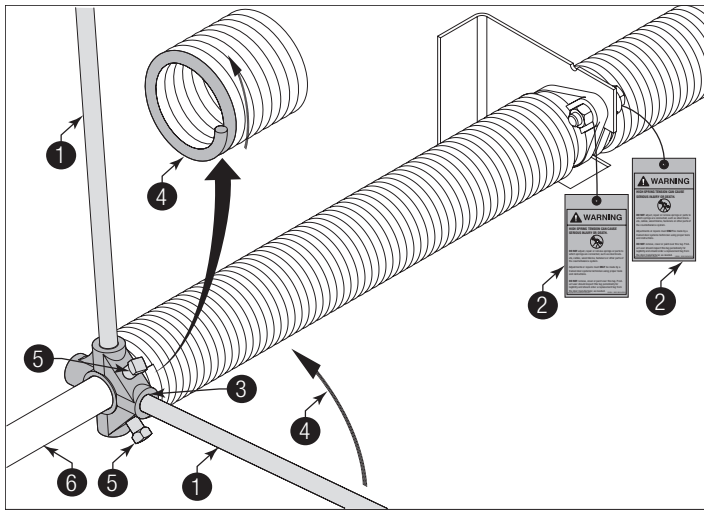

Figure 24
**PRIOR TO WINDING THE SPRING, ENSURE YOU'RE WINDING IN THE PROPER DIRECTION AS SHOWN IN FIGURE 24. OTHERWISE THE SPRING FITTING MAY RELEASE FROM SPRING AND RESULT IN SEVERE OR FATAL INJURY.**